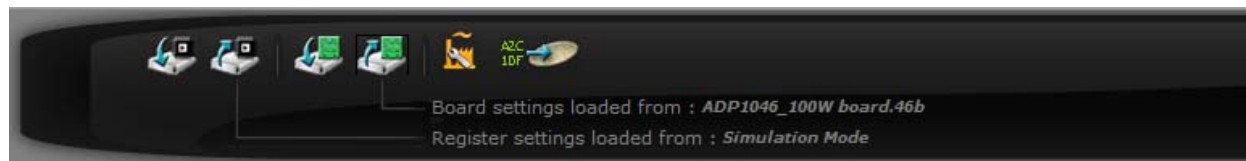

Figure 9 - Different icons on dashboard for loading and saving .46r and .46b files
6. **The IC on the evaluation board comes preprogrammed and this step is optional.** The original register configuration is stored in the ADP1046A\_100KHz\_Hard\_switching.46r register file. Note: All register files have an extension of .46r. The file can be loaded using the second icon from the left in Figure 9.